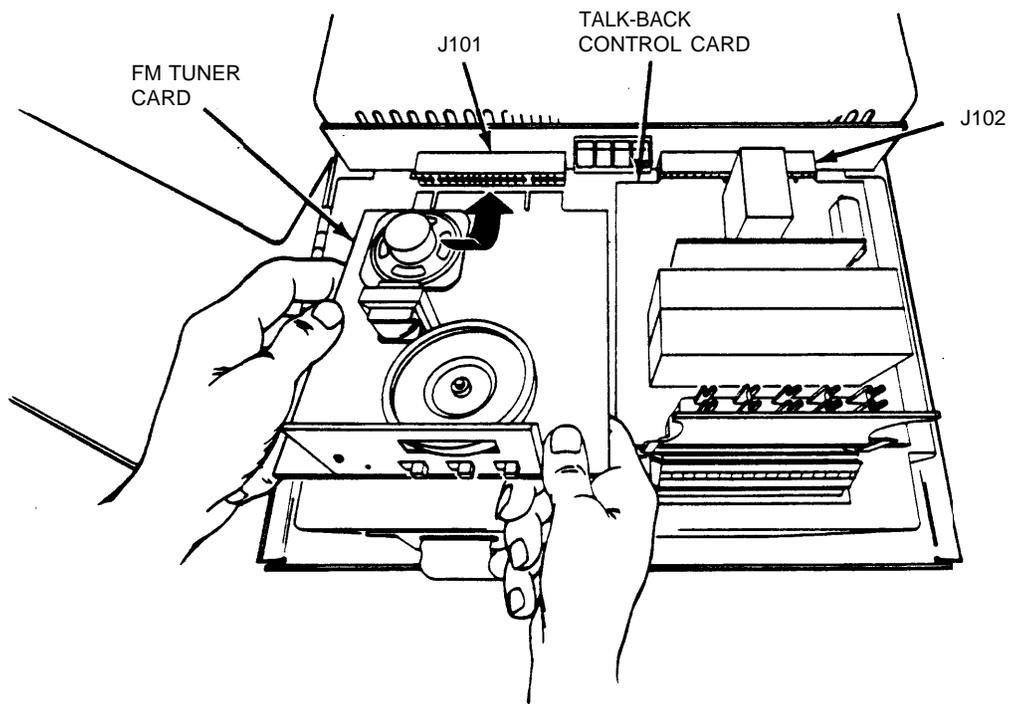

Figure 2-4. Installation of Optional Circuit Cards
3. Plug FM tuner card into connector J101 as shown in Figure 2-4. See System Power-Up and FM Tuner Card Adjustment Procedure (page 2-17) for tuning instructions.
5. Plug talk-back control card into connector J102 in the manner shown for FM tuner card in Figure 2-4.